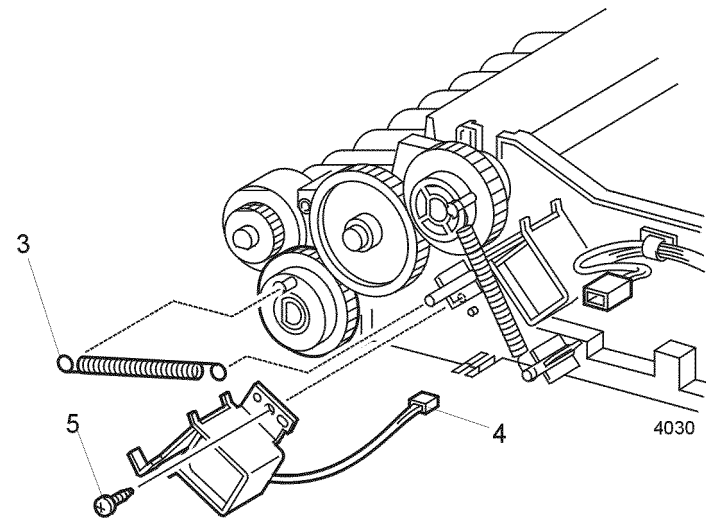

Figure 1 Tray 1 Feed Solenoid
4. Disconnect P/J135 from the Tray 1 Feed Solenoid (Figure 1).
5. Remove the screw that secures the Tray 1 Feed Solenoid to the MBF Assembly (Figure 1).